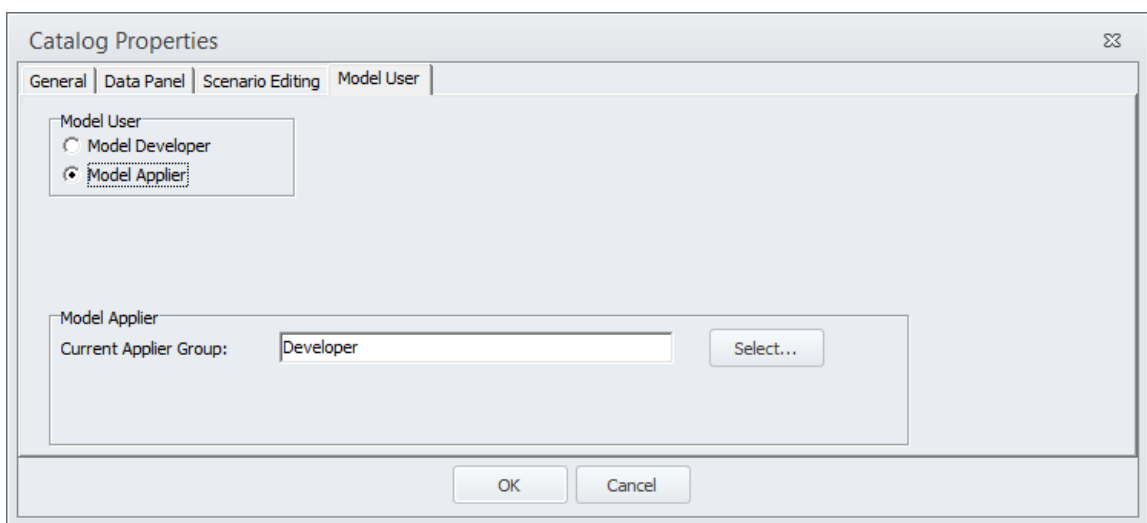

Figure 2 Correct settings for the catalogue file
- 3) To set the properties of the catalogue file, go to “Scenario” menu on the toolbar and select “Properties”. On the Catalogue Properties window, select the “Model User” tab, and set the Model User as “Model Applier”. Under Model Applier section select "Developer" as shown in Figure 2.